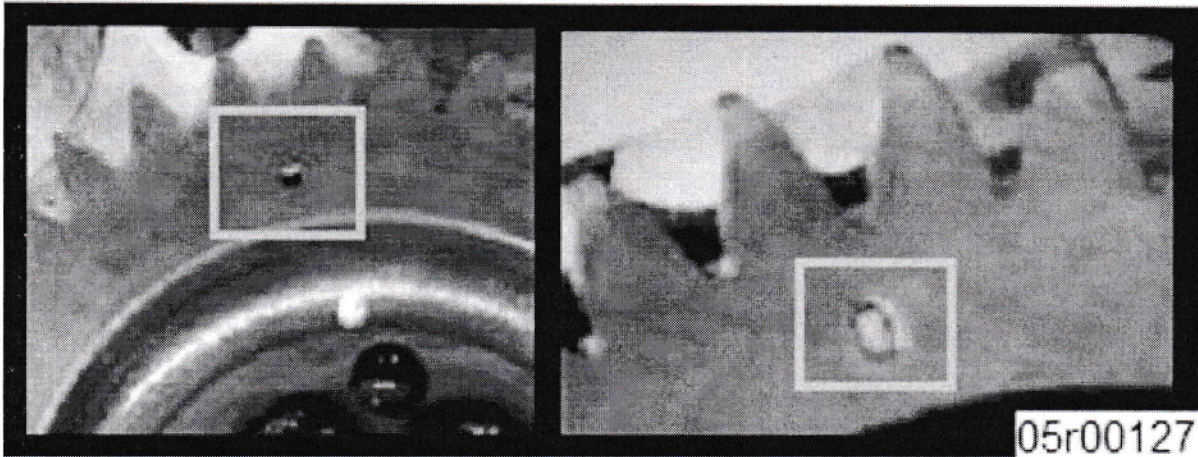

Figure 1, Fuel Pump Timing Mark Examples.
- Locate fuel pump timing mark stamped on front face of fuel pump gear. Fuel pump timing mark is either a “0” or “•” See Figure 1 below.